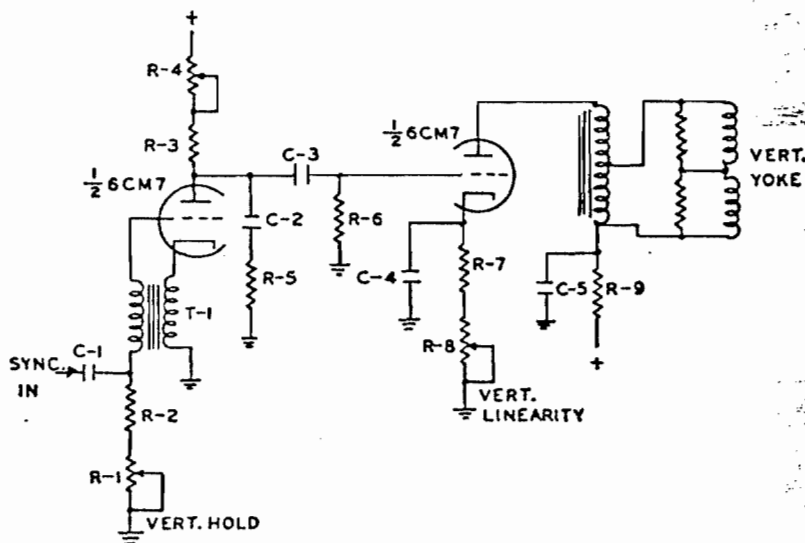

Figure 13—Vertical Deflection System
1. Using the Vertical Grid Drive pulse available on the front of the Television Analyst, apply this signal to the vertical output stage grid (See Fig. 13). If, when this signal is applied, the image develops vertical deflection, then we know that the proper driving signal is not being supplied to the output stage by the vertical oscillator. The defect is either in the oscillator itself or in the capacitor (C-3) coupling the oscillator to the output stage. However, if vertical deflection of the image doesn't occur when the signal is injected at the grid of the output stage, the defect is located somewhere between this grid and the deflection yoke.
The grid driving pulse signal may not necessarily result in linear deflection on the screen of the television receiver. However, we are primarily interested in the presence or lack of deflection. A closer approach to good linearity can be obtained by adjusting the linearity control in the receiver (R-8) in Fig. 13 and by adjusting the Vertical Drive Amplitude control located on the front of the Television Analyst. In all cases this control should be at maximum when first starting to troubleshoot vertical deflection systems.